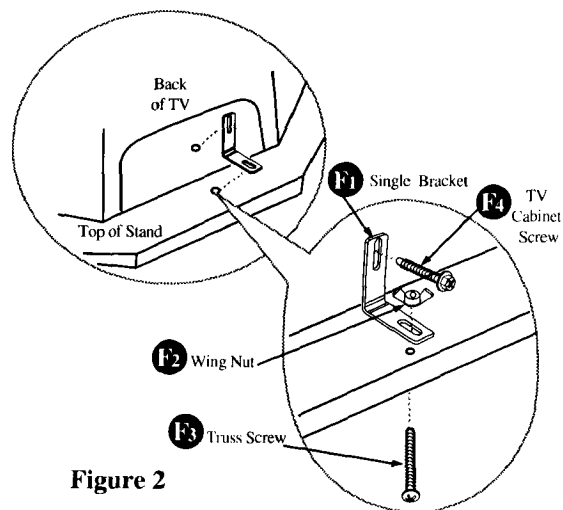

Figure 2
3. Attach the single bracket as shown in Figure 2.